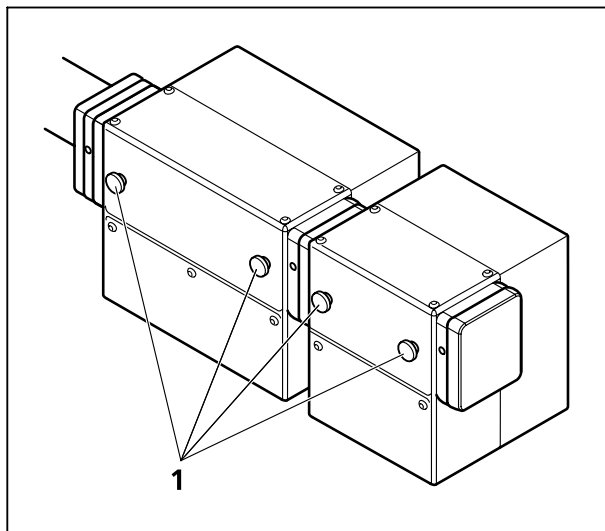

Fig. 8-7 Thumbscrews of the P&C sliders
The first NDD module, which is attached to the NDD port, is always a two channel module (Fig. 8-7/1). Inside this module right at the opening towards the microscope is a small clamping that holds a blocking filter (1442-160 or 1442-161; order# Feb. 08). Both filters are short pass filters which block the IR light of the multiphoton laser with an optical density (OD) of at least 7. If none of these filters is installed, the image quality will not be sufficient as too much laser light will get to the detectors. Always make sure one of these filters is in place.
To install them, open the metallic grey lid of the NDD module turning the thumbscrews (Fig. 8-7/1). Once the lid is removed the clamping is accessible. Slid in the filter, which is attached to a small holder, into the clamping with the little screw on the side of the holder situated on the left side of the holder when facing towards the microscope.
- To change the cubes simply take out the sliders which hold the cubes by unscrewing them from the rest of the module using the thumbscrews (Fig. 8-7/1).